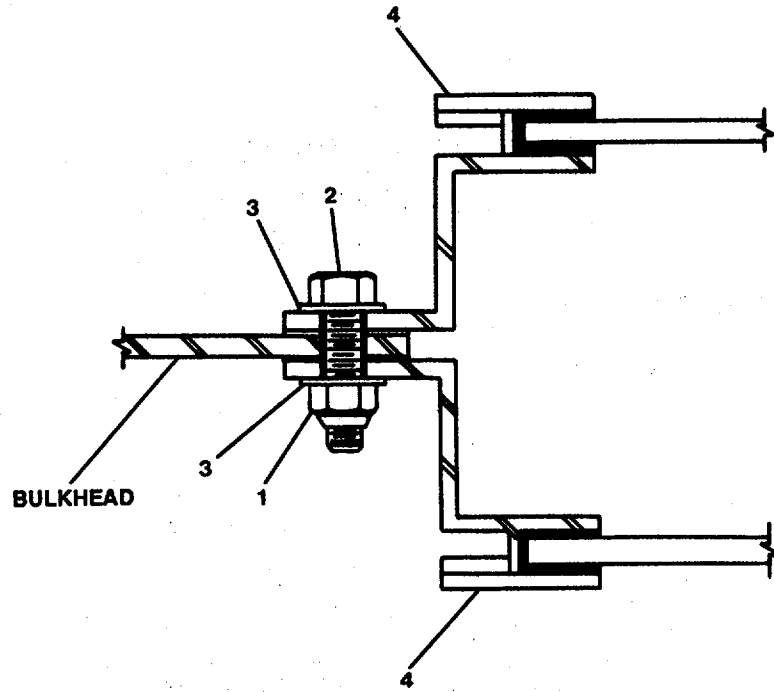

FIGURE 3-177. *Remove Fixed Window. Double Pane.*
- Support fixed windows (4, Figure 3-177).
- Remove self-locking nuts (1), capscrews (2), and flat washers (3).
- Remove fixed windows (4) from bulkhead.
- a. Position fixed windows (4, Figure 3-177) in bulkhead opening.
- b. Secure using cap screws (2), flat washers (3), and self-locking nuts (1).